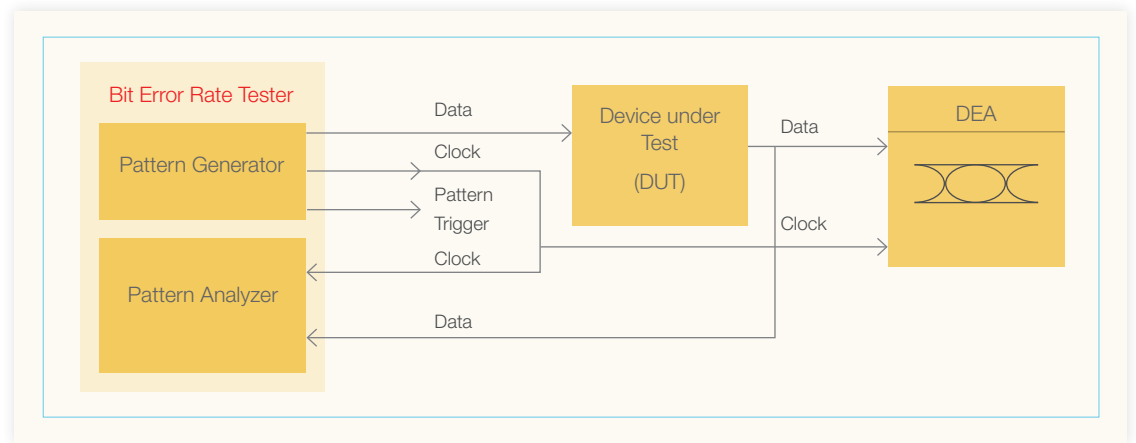

Figure 3.1.1: Serial-in-serial-out DUT testing
3.1: Serial-in-serial-out Systems: For serial-in-serial-out systems, typically a Bit Error Rate Tester (BERT) is used along with a DEA scope as shown in Fig 3.1.1. The Bit Error Rate Tester generates a pattern and also provides serial clock along with a pattern trigger. The pattern trigger provides a pulse signal, which indicates the start of a pattern. The Device Under Test (DUT) takes the data from the BERT's Pattern Generator, and the output of the DUT is fed into the BERT. While the BERT tests the error rate, other analog properties of the DUT's output are best tested with a DEA, which can measure jitter, rise/fall time, eye mask, etc. If there is any issue with DUT, the troubleshooting is performed by the scope. Most BERTs do not provide enough insight to troubleshoot or thoroughly characterize the DUT.